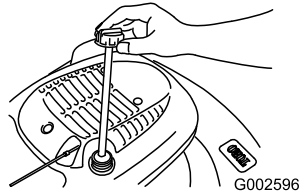

Figure 29
2. Remove the dipstick (Figure 29).